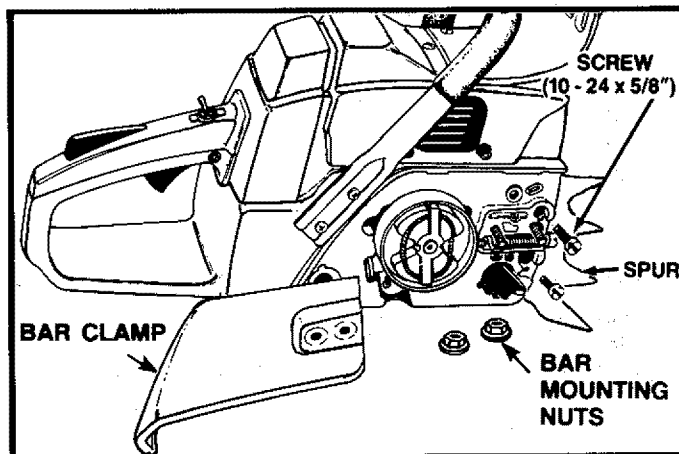

Figure 6
- Align the spur over the two holes on the bar clamp side of the saw. Figure 6.
1. Remove the bar clamp nuts and bar clamp if you have not done so. Figure 6.